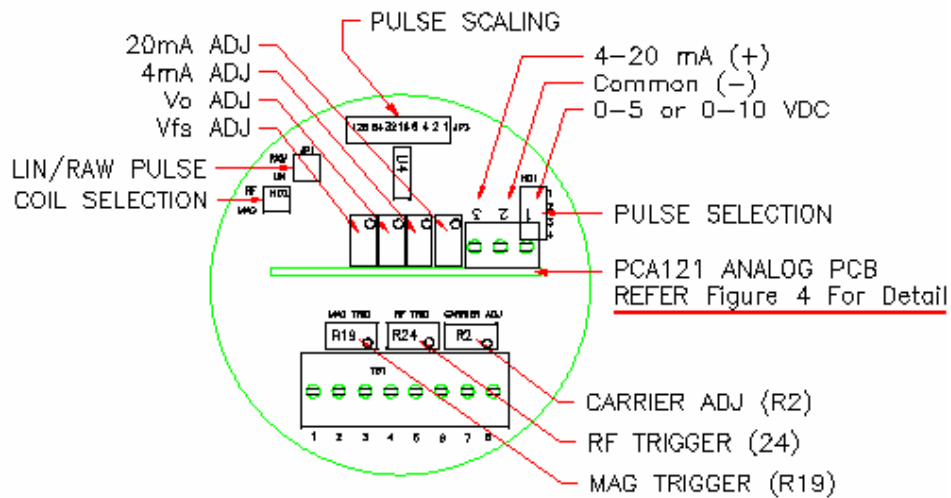

Figure 3
4. Set Jumper HD2 (see Figure 3) to the RF position.
5. Configure Jumper HD1 (see Figure 3) to the desired pulse output as follows:
6. Install pickup (e.g. in meter) and provide power to PA1001A. Use a digital voltmeter set to DC voltage and attach the positive lead to Terminal 6 and the common lead to Terminal 2. Adjust the Carrier Adjustment (R2) (see Figure 3) to a reading of 3.00 VDC to fine-tune the pickup for air gap, wall thickness, etc.
7. With power still supplied to PA1001A determine if pulse output is being generated in the absence of motion. Adjust the RF Trigger (R24) (see Figure 3) clock wise until the false pulsation has stopped. If pulsation continues when adjusted fully clock wise, check that all shields have been properly terminated and grounded.
4. Set Jumper HD2 (see Figure 3) to the MAG position.
5. Install pickup (e.g. in meter) and provide power to PA1001A. Determine if pulse output is being generated in the absence of motion. Adjust the MAG Trigger (R19) (see Figure 3) clock wise until the false pulsation has stopped.